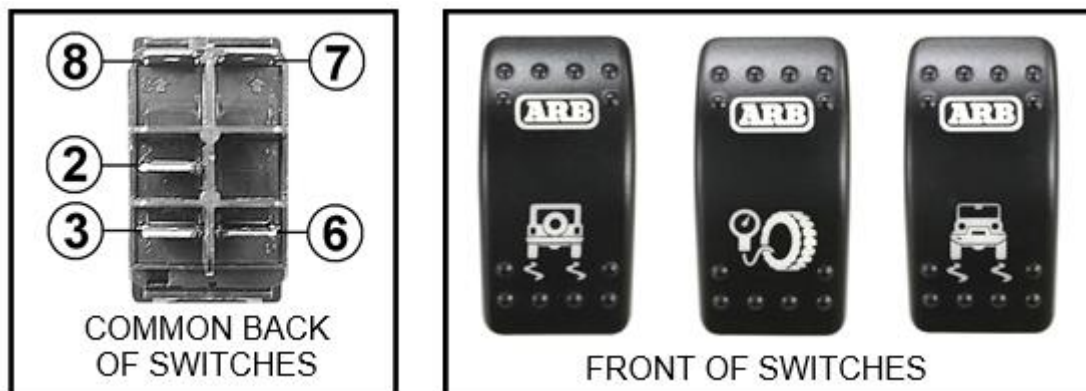

Figure 16. Switch terminal designations
- ☐ Consulting the wiring diagram (Figure 15) for wire colours, and the switch terminal illustration (Figure 16), plug each of the female spade terminals onto their appropriate switch terminal.